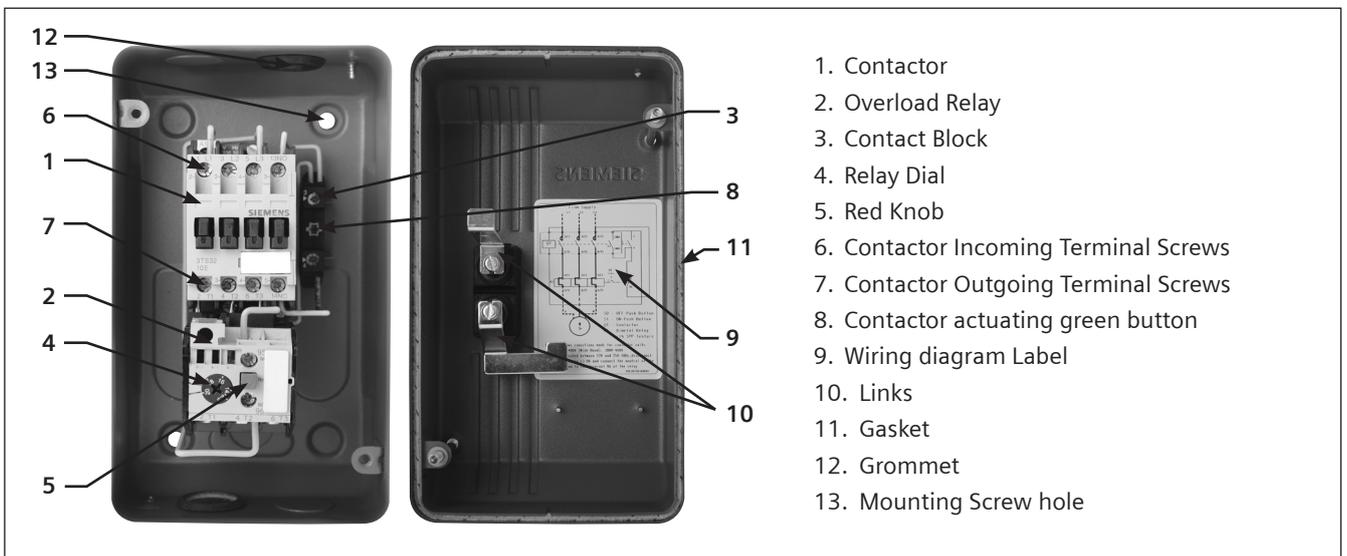

Fig. 2: Starter Inside View
- Remove the rubber Grommets for incoming and outgoing cable Connections. (Fig. 2)
- Connect incoming and outgoing cables as follows: (Fig. 2)
- Set the overload relay scale (Fig. 2) using proper screw driver as per the procedure given below.
- Press green button of the contact block (Fig. 2) to start the motor and wait till it reaches to normal speed. Reduce the relay settings till it trips.
- Press the red knob (Fig. 2) on the overload relay to stop the motor